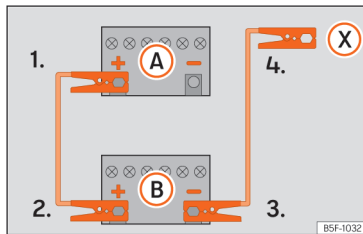
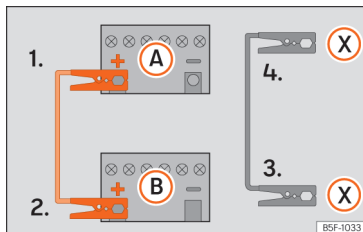

Fig. 215 Wiring diagram for vehicles without a start/stop system.
Fig. 216 Wiring diagram for vehicles with a start/stop system.
The jump leads should only be connected in the order **1 > 2 > 3 > 4** »» Fig. 216.
- Vehicles without a Start-Stop system:* connect one end of the black jump lead to the negative terminal (-) of the vehicle providing the current **B** »» Fig. 215. *Vehicles with a Start-stop system:* connect one end of the black jump lead (X) to a suitable ground terminal, to a solid piece of metal in the engine block, or to the engine block itself »» Fig. 216.
- Connect the other end of the *black* jump lead (X) to a solid metal component bolted to the engine block or to the engine block itself of the vehicle with the flat battery. Do not connect it to a point near the battery **A**.